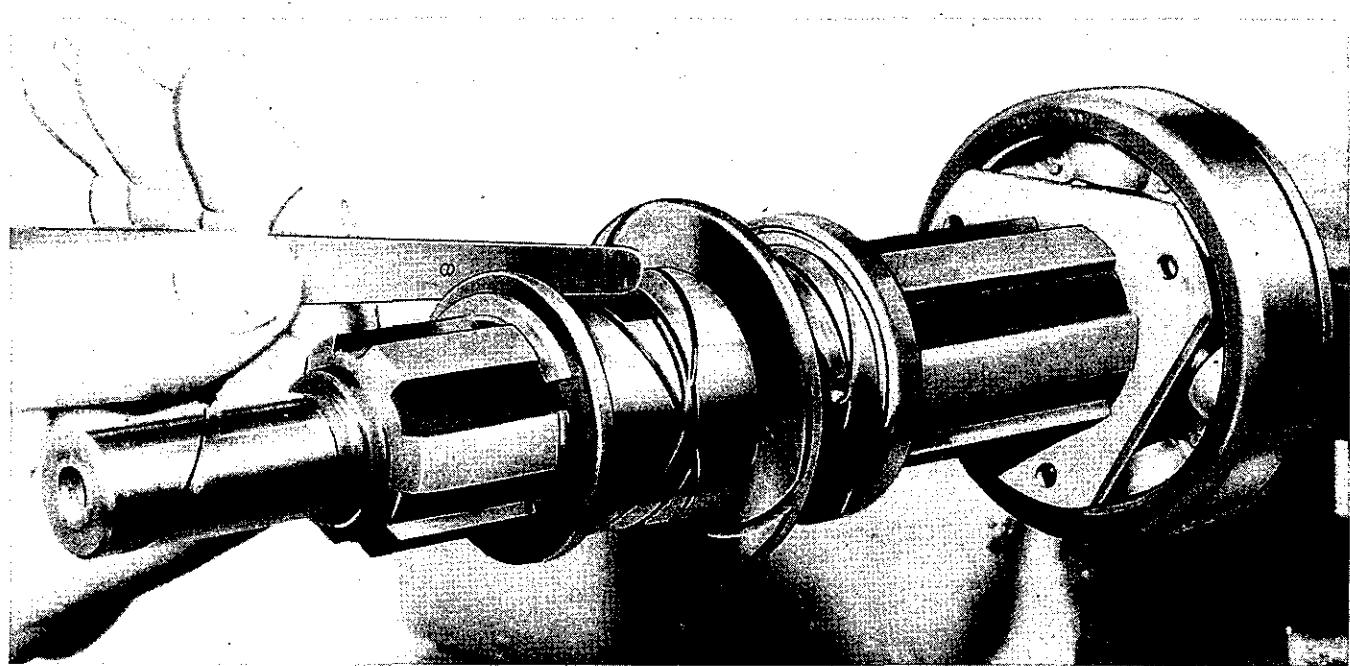
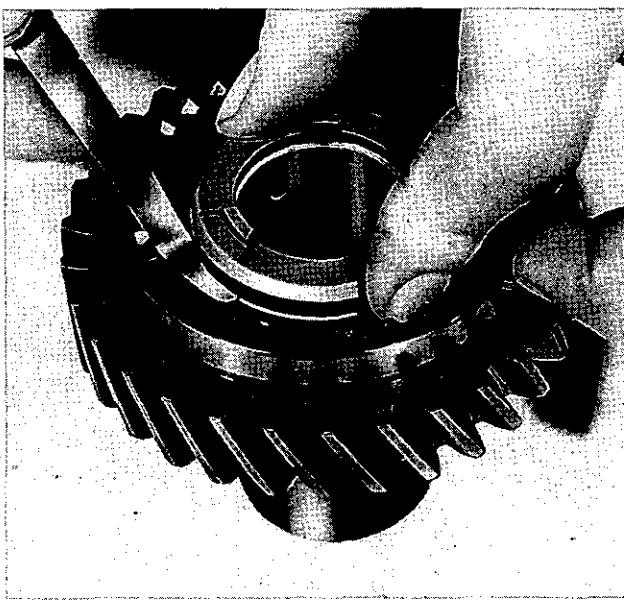
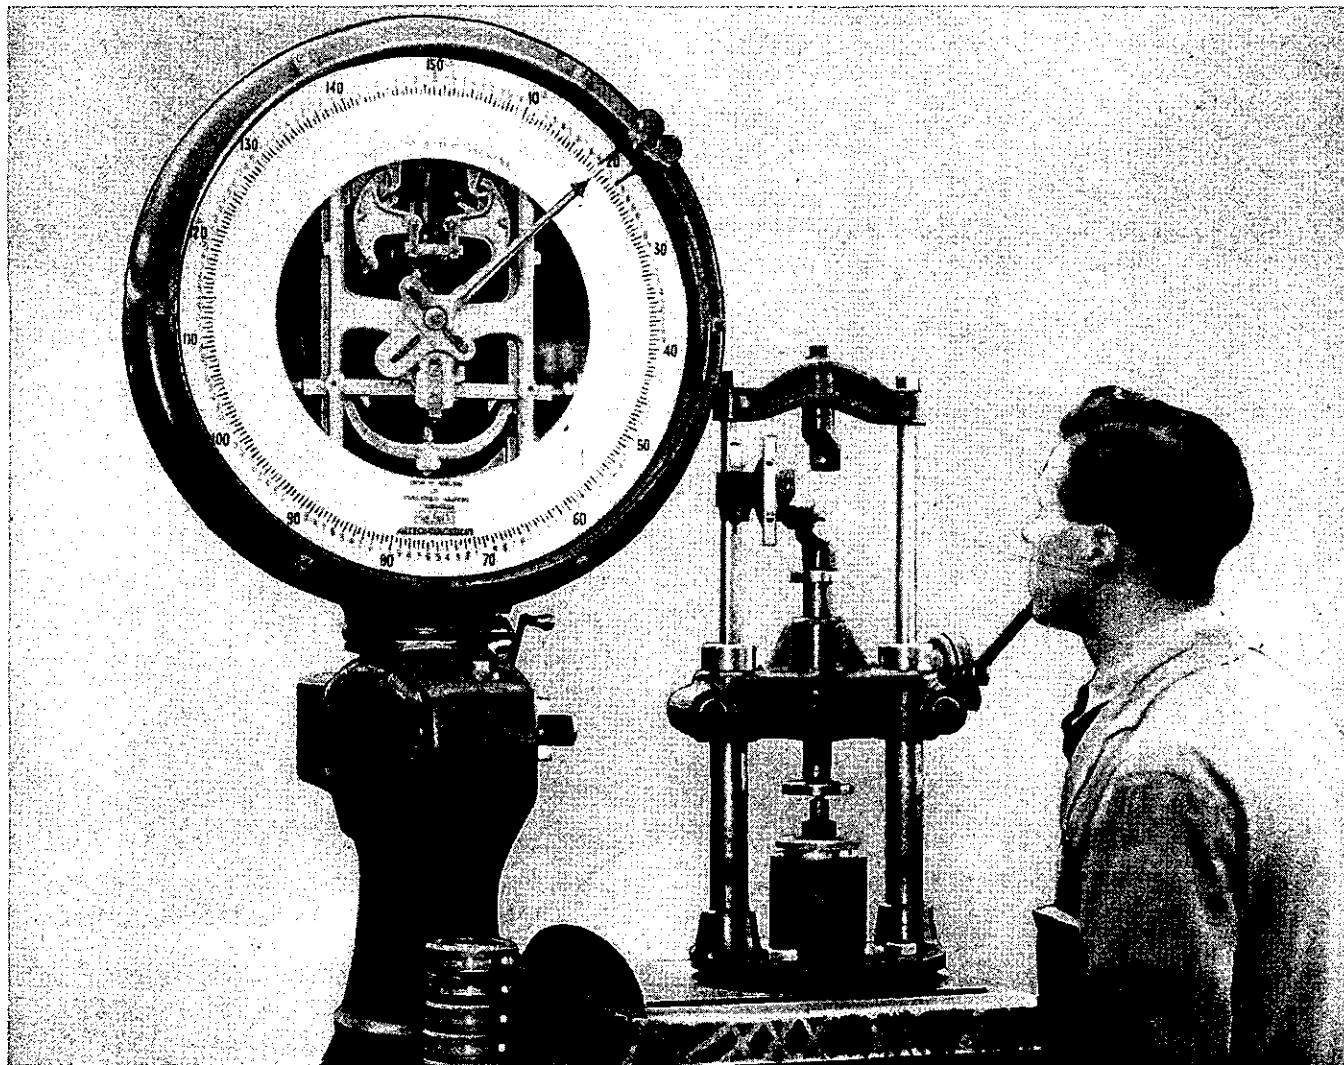

Fig. 20. Checking end float in mainshaft bearing bushes with half circlip and feeler gauge
Fig. 22. Checking end float of "first" constant wheel on bush
Fig. 25. Testing axial load for synchro release with a spring testing machine
- (f) Fit new circlip employing tool shown in Fig. 12. It is important to ensure that the thrust washer which abuts against the second mainshaft gear, where new parts have been fitted, permits the circlip to go properly home in its recess and if it is necessary the thickness of the thrust washer should be suitably adjusted to just provide the necessary clearance to allow the circlip to be rotated freely in its recess and be tested with a half circlip as shown in Fig. 20.
.004"—.006" in the first and second constant gears and can be measured as shown in Fig. 22 and 23 respectively. Overall float on these gears can be measured as shown in Fig. 20 and should be from .007" to .012".
must be carried out to increase or decrease loading respectively. The method employed for checking this loading in the factory is illustrated in Fig. 25.
If doubt exists as to the condition of the coned faces, they should be lapped in together, employing burnishing paste and holding the cup on the special spiggotted fixture shown in Fig. 20. All traces of paste should subsequently be removed with a petrol-moistened rag. Carburundum paste should NEVER BE EMPLOYED for this lapping-in process. If the baulk pin spring has become damaged it should be replaced. Where difficulty arises with synchronization of the "second" and "top" gears, the usual explanation, as previously stated, will be the incorrect spring loading of the operating sleeve and for this reason should first receive attention. The correct axial loading for this operating sleeve should be between 19 and 21 lbs. and can be checked on a spring testing machine, employing a suitable ring fixture to support the unit such as shown in Fig. 26, or, alternatively, more simply as indicated in Fig. 25.